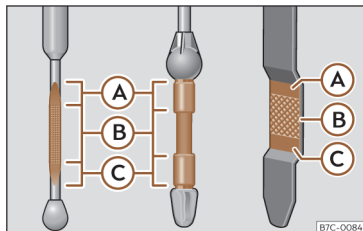

Fig. 229 Engine oil dipstick.
- Then pull it out again and check the oil level >>> Fig. 229. Top up with engine oil if necessary.
- When the oil level reaches at least zone >>> **Fig. 229 (B)**, carefully screw on the engine oil filler cap >>> .